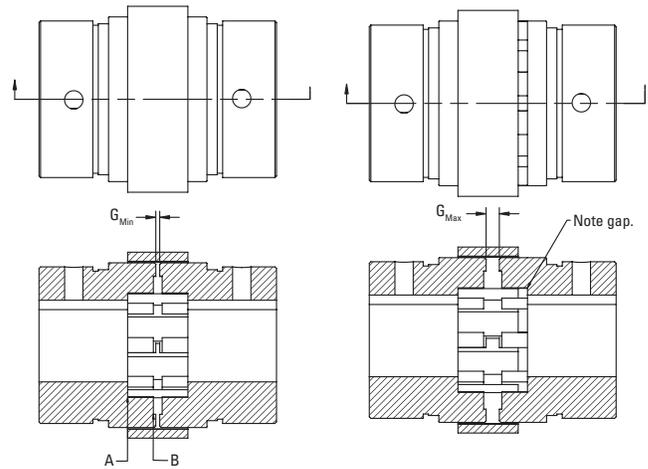

Fig. 2. Proper shaft-to-hub engagement.
4. Install the first hub. It should be mounted so the end of the shaft is flush with surface "A" as shown in fig. 2. It is acceptable for the shaft to extend past "A" as long as it is not past the teeth shown as "B."